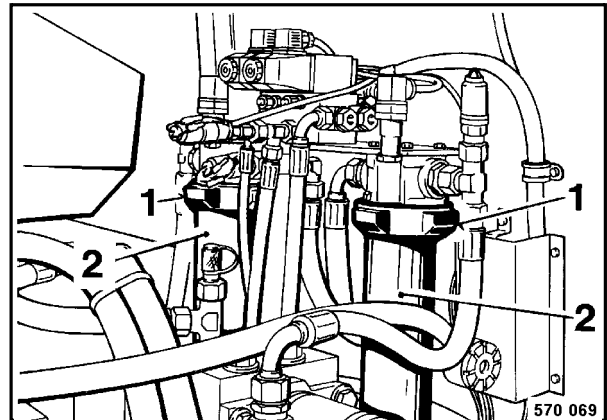

Fig. 36
- Unscrew the spigot nut 1 (Fig. 36).
- Take the filter bowl (2) with the filter element off.